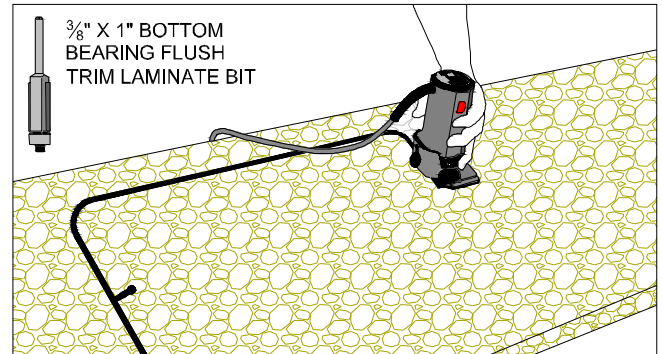

Figure 4A
- Use a laminate trim router with a $\frac{3}{8}$ " bottom bearing flush trim bit. (FIG. 4A)
- Route around the inside of the sink ring. (FIG. 4A)